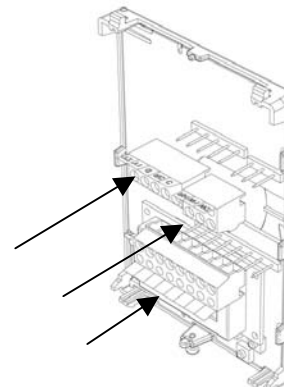

Fig.5
- 13- Gently push back into hole excess wiring **(Fig. 5)**
- 14- Re-Install wiring terminals in correct location. **(Fig. 5)**